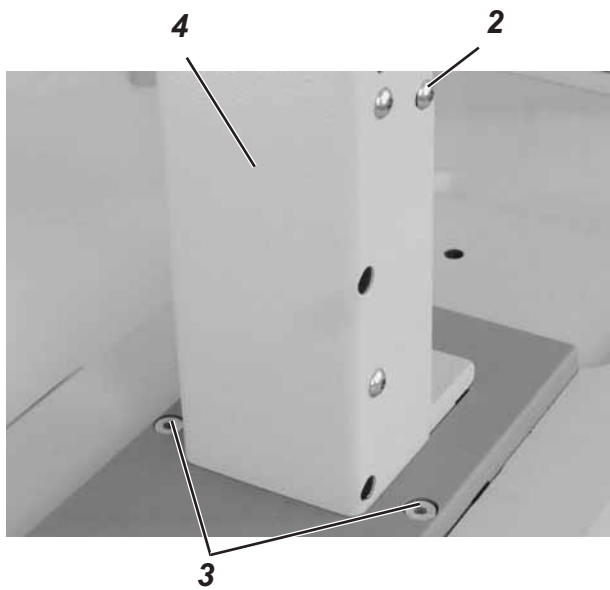

Abb. 1
- Loosen screw (2) and the two screws (3). Move the post bed feed (4) so that either rule 2.1 is met (**A = 0.1 mm**) according to **Figure 1**, or rule 2.2 according to **Figure 2**.